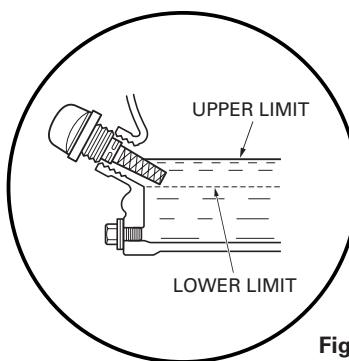

Fig.16
3. Fill engine crankcase with recommended oil (See page9). Check oil level (Fig.16).